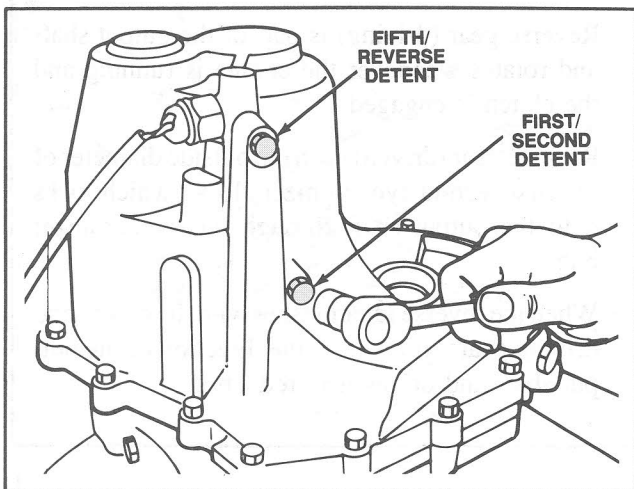

Figure 32 Detent Removal
3. Remove the fifth/reverse detent plug, spring and ball. (Figure 32).